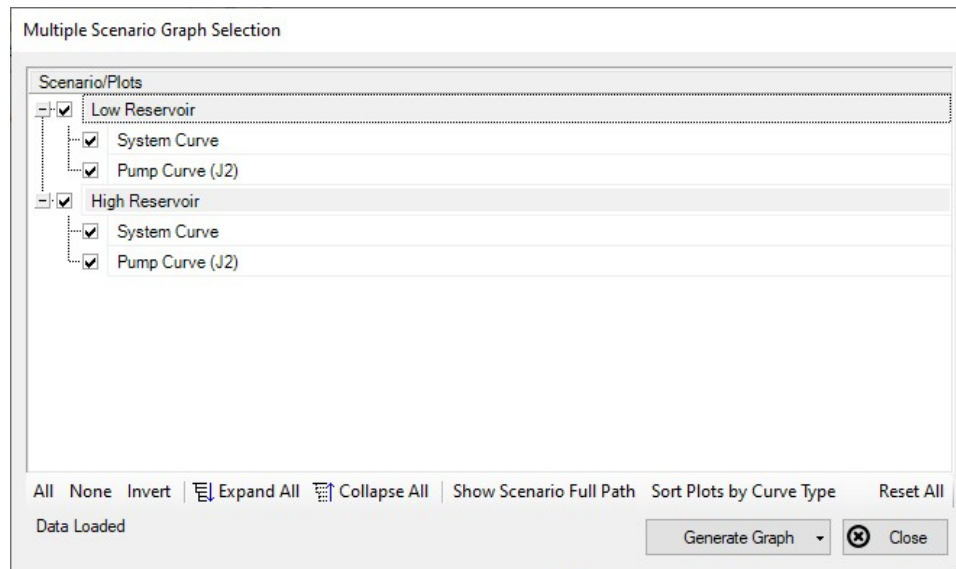

Figure 8: Multiple Scenario Graph Selection
5. In the Multiple Scenario Graph Selection window select which curves you would like to include in the graph, then choose Generate Graph as is shown in Figure 8.